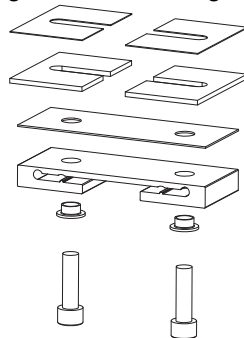

Figure 2-1
- Mounting kit for the ceiling rail Y (Unistrut mounting brackets, etc.). See *Figure 2-1*.